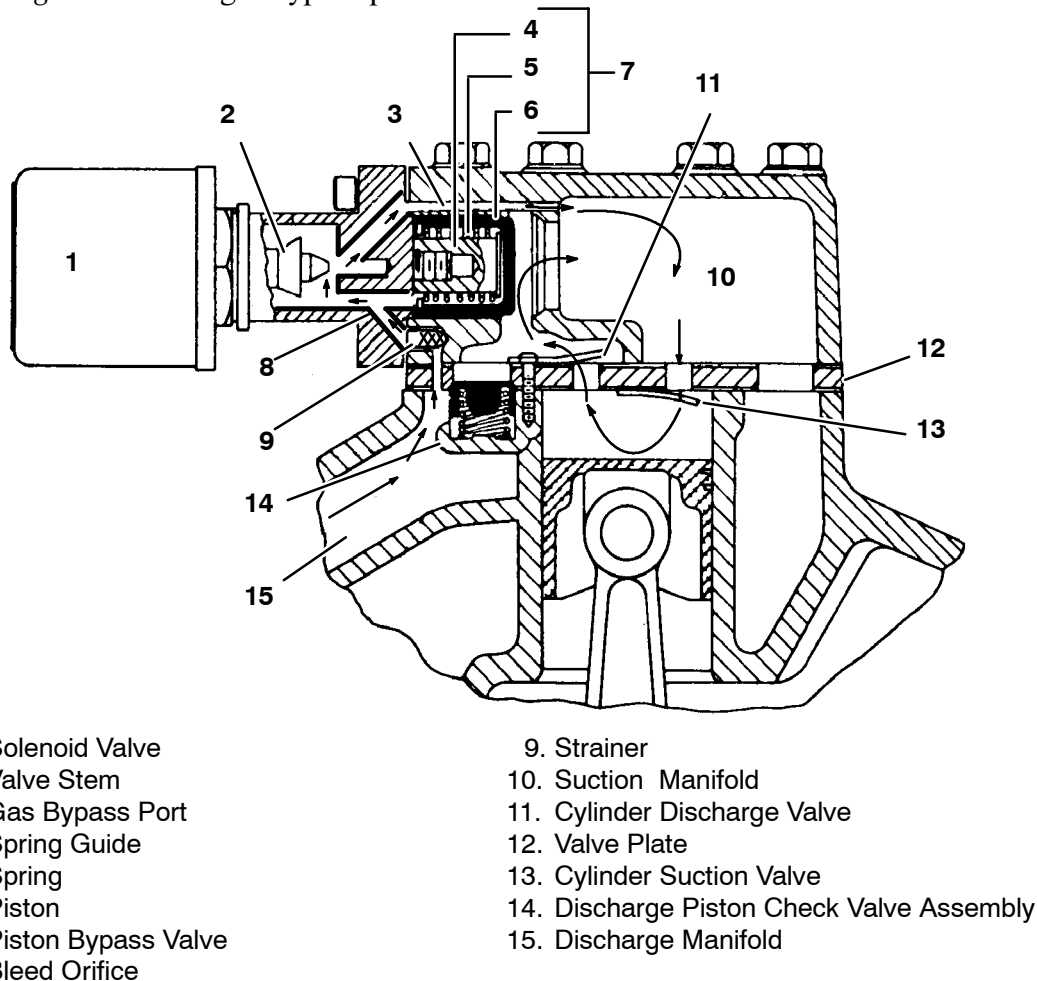

Figure 7-10. Compressor Cylinder Head Unloaded
Pressure from the discharge manifold (Figure 7-10, item 15) passes through the strainer (9) and bleed orifice (8) to the back of the piston bypass valve (7). Unless bled away, this pressure would tend to close the piston (6) against the piston spring (5) pressure.